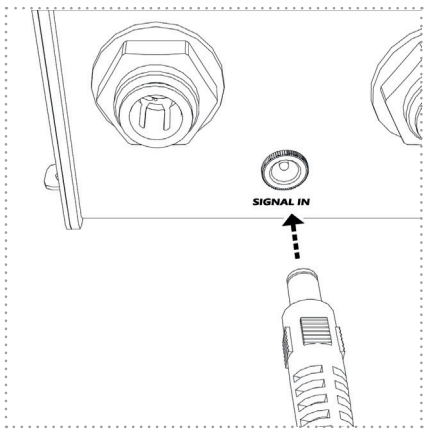

Figure 22
- Reinsert/turn on the fuse for the UV unit's circuit and check for the correct mains voltage at the test openings of the connection terminals (Figure 22).
In winter and at sub-zero temperatures, ensure that the water in the UV unit and in the entire water system does not freeze. If this cannot be guaranteed, open all water consumers/fittings and let the pump run until no more water comes out of the fittings. For safety, now remove the hose on the water inlet side to the UV unit so that any water residues can drain out (see Figure 22 or **4.3.4 Releasing Push-In Connectors (p.50)**). Place a towel or container under the UV unit for this purpose.